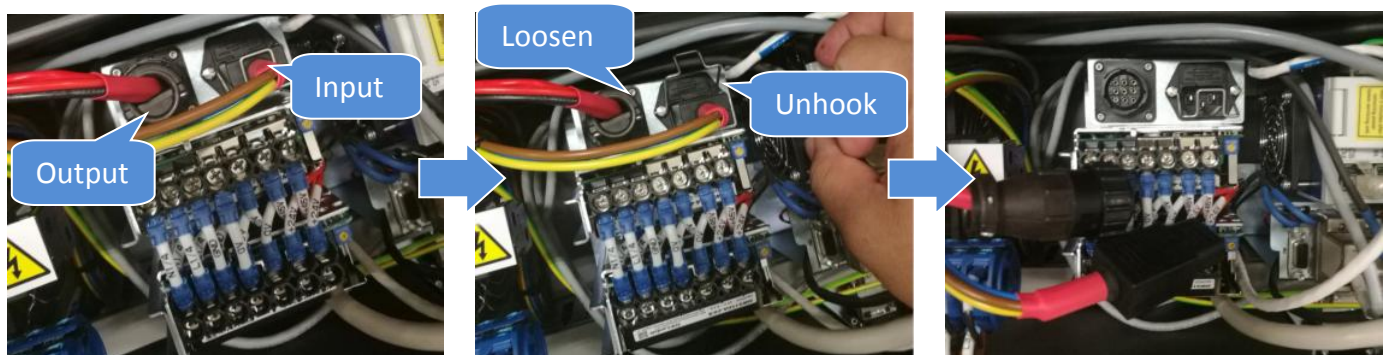

Figure 3 Power Input & Output Disconnection
5. Unhook and disconnect the Input and Output connector as below Figure 3